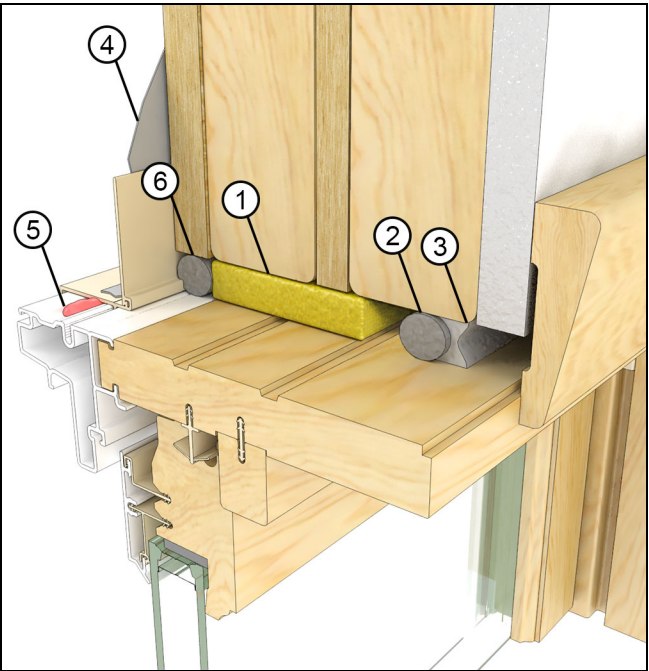

Figure 21
2. Low Expansion Foam. Install a backer rod at the exterior plane of the RO. Apply a low expansion/low compression closed cell foam in the cavity. Install a backer rod and sealant at the interior plane of the RO to create a continuous air seal. See Figure 21.